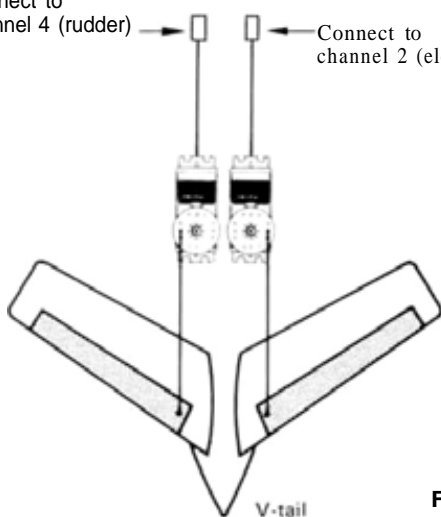

Fig. 78
- Install and connect the servos as shown in Fig. 78. Always connect the servo to the Right Rud-dervator to CH2 (Elevator).